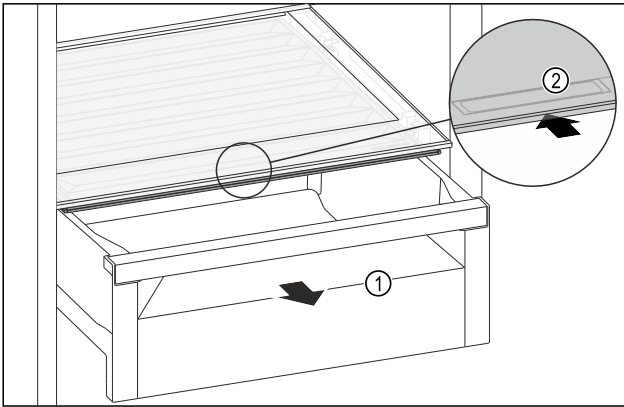

Fig. 143
- ▶ Pull out the drawer Fig. 143 (1).
- ▶ Grip the handle recess Fig. 143 (2) on the lid while pulling the lid backward at the same time.